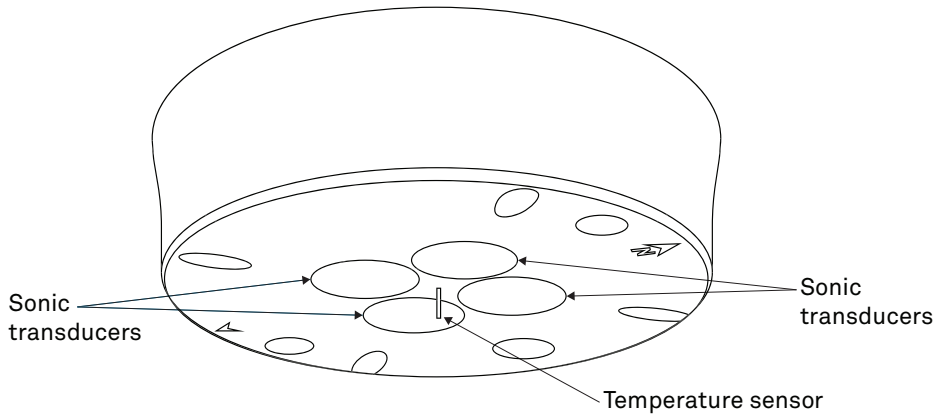

Figure 6 Temperature needle and sonic transducers
1. Make sure nothing is obscuring the temperature sensor or the sonic transducers shown in Figure 6 (cobwebs, leaves, wasp nests, etc.).
DO NOT touch the temperature sensor needle (Figure 6). The wire leads for the temperature sensor needle are very delicate and can be easily damaged.